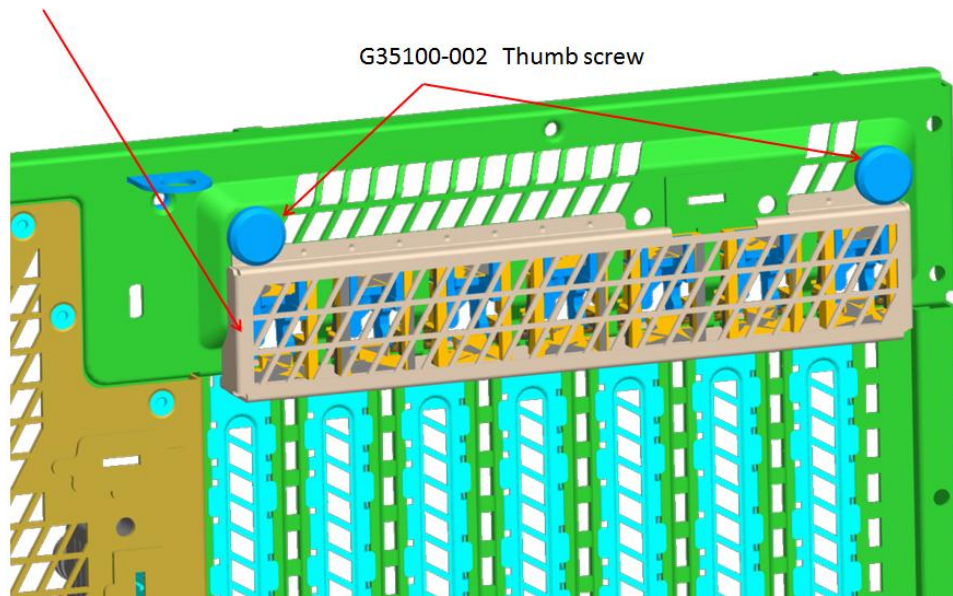

Figure 17. Installation of P4000S and P4000M chassis EMI Bracket Cover
5. Add the EMI Bracket cover using the 2 thumb screws as shown in Figure 17 or Figure 18 per Table 7
P4000BTL Family	Figure 17
P4000CP Family	Figure 17
P4000FP Family	Figure 17
P4000GP Family	Figure 17
P4000SC Family	Figure 17
P4000M Chassis	Figure 17
P4000S Chassis	Figure 17